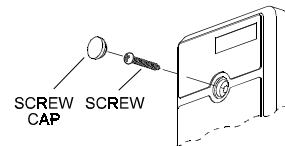

Figure 10. Front Cover Assembly
- Unpack the unit and save the nylon bag with the round plastic cap for later use (see Figure 10).
A. Carefully position the front cover hole over the LED. Secure the front cover with the screw and the cap (see Fig. 10).